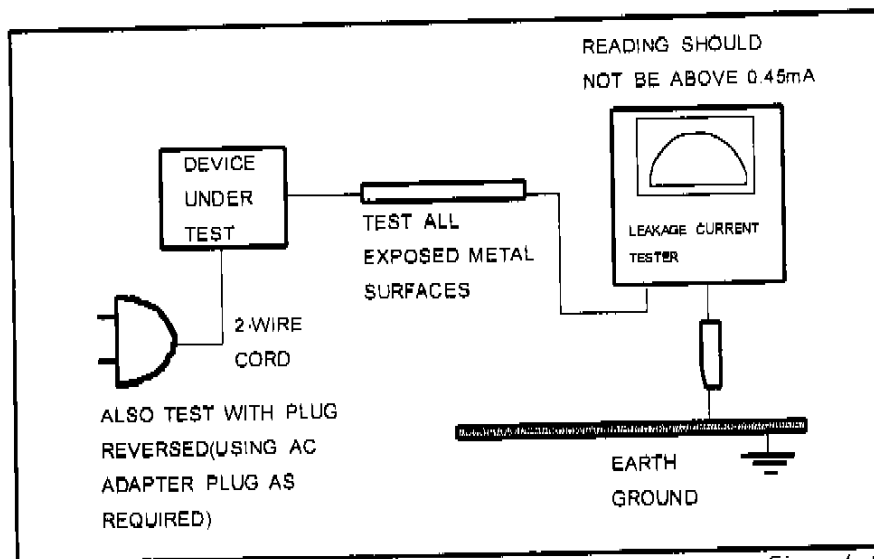

Figure 1
- 4) leakage current check (figure1 1)